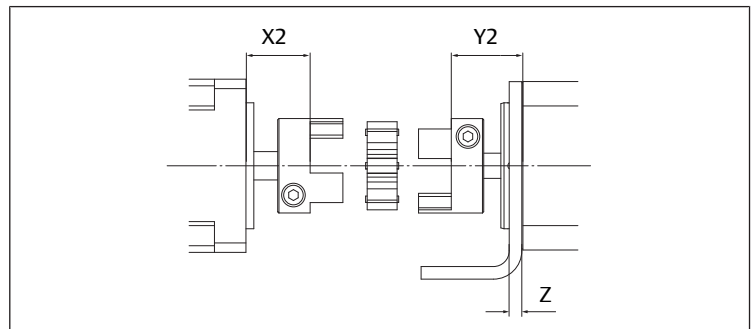

Fig. 13: Positioning dimensions for coupling with foot mounting
- For coupling with foot mounting. See → Fig. 13 and → Table 5.
3. Tighten the screws (12).